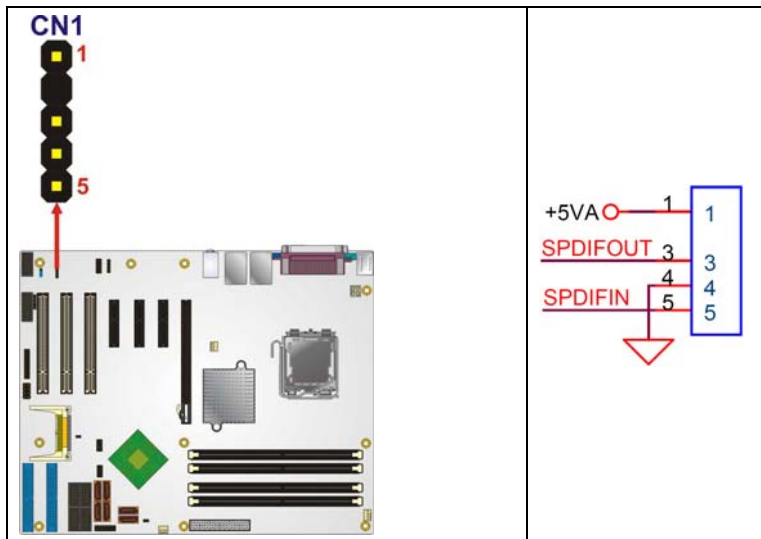

Figure 4-19: SPDIF Connector Pinout Locations
- CN Location:** See Figure 4-19